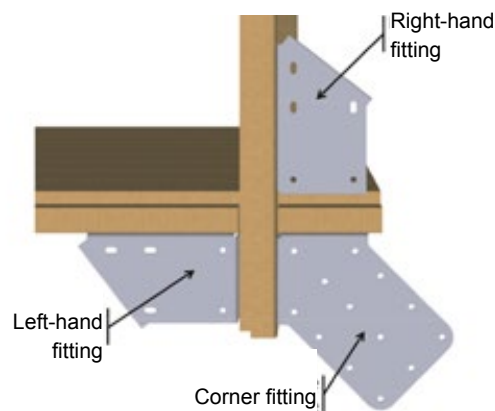

Figure 19 – Mounting the fitting in the corners
- In each of the corners, mount a right-hand fitting, a left-hand and a corner fitting as shown in Figure 19. Use 4 hinge screws 6 × 20, A2 SS (bag G) per corner fitting 6 hinge screws 6 × 20 in A2 SS (bag G) per left- and right-hand fitting, that is a total of 64 screws.